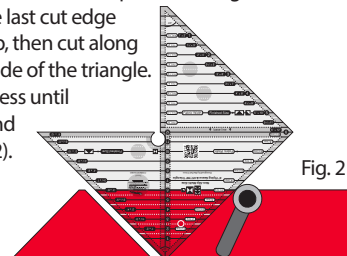

Fig. 2
5. Rotate the ruler 180°. Line up the side edge of the triangle with the last cut edge of the fabric strip, then cut along the right hand side of the triangle. Repeat this process until you reach the end of the strip (Fig.2).